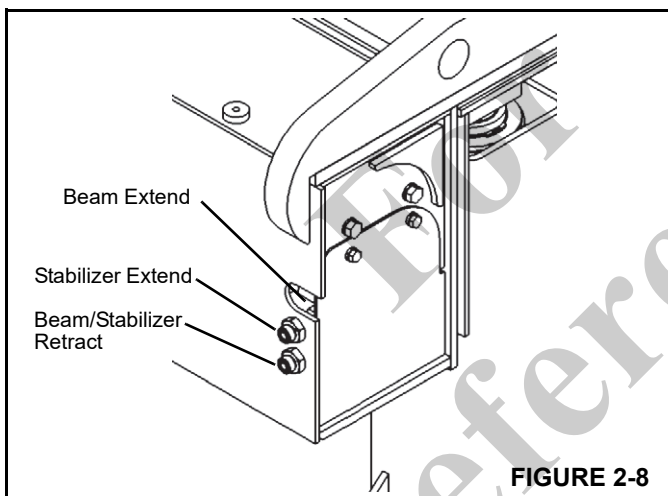

FIGURE 2-8
2. Install a pressure gauge in the retract line (Figure 2-8).
2. Install a pressure gauge in the extend line (Figure 2-8).